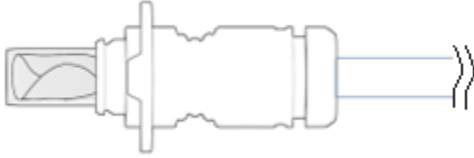

Figure 6. Inspection of Implant (within loading cannula)
- Visually check the integrity of the implant (within the loading cannula); there should be no creases, folds or tears, see Figure 6.